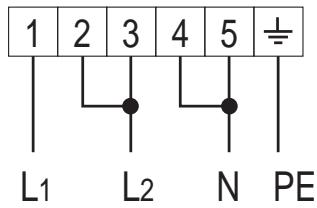

Fig. 2.2
- Position the U bolts onto terminal block "B" (fig. 2.1) according to the diagram in figs. 2.2, 2.3.
- Connect the phase and earth cables to terminal "B" according figures 2.2, 2.3.